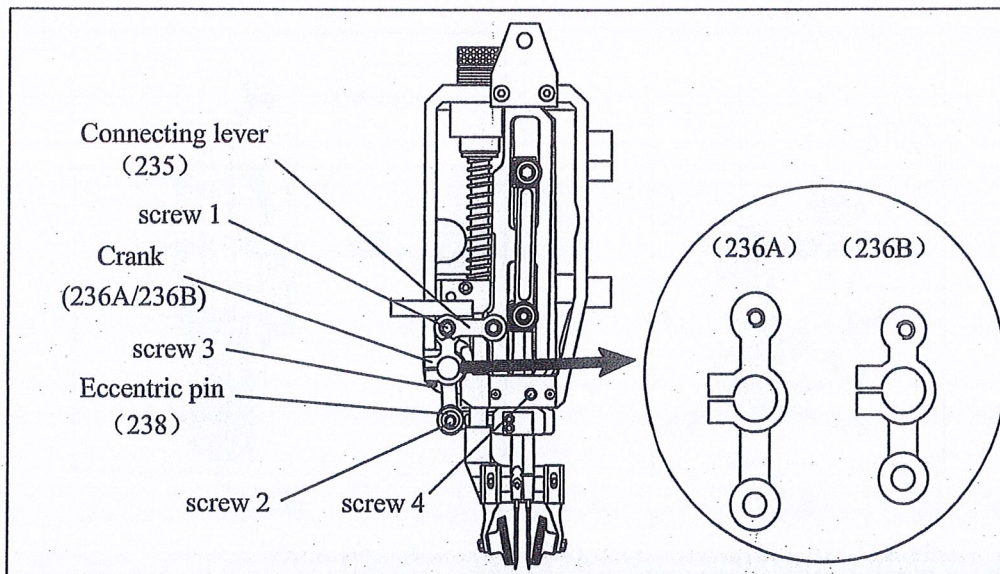

Fig 7
To replace the crank(236A/236B), proceed as follows(Fig 7)
- loosen the screw 3 (shown in Fig 7).
- Tighten the screw 4 (shown in Fig 7).
**Attention:** After setting the stitching seam ,rotate the pulley(203) by hand at least 4 circles to see if the distance between two needles is always same.If not , lossen the screw 3 of the crank(236A/236B) and rotate the crank(236A/236B) a little angles in the clockwise direction or in the anti-clockwise direction until the distance between two needles is always same before and after two needles be intercrossed. (Fig 7)